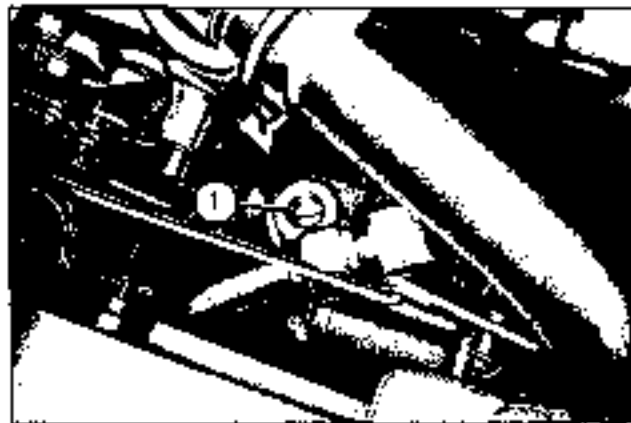

Fig. 1-53. Power steering pressure adjustment
- b. When installing seal (3), place a light coating of No. 3 Permatex in hole of cover (7). Install seal with lip to inside and stake tightly to cover.
- d. Power steering relief pressure is to be 1100 PSI, plus or minus 50 PSI. Adjust pressure by turning adjusting screw (1, figure 1-53). Turn screw in to increase pressure. When desired pressure is attained, stake screw to cartridge, at both ends of slot.